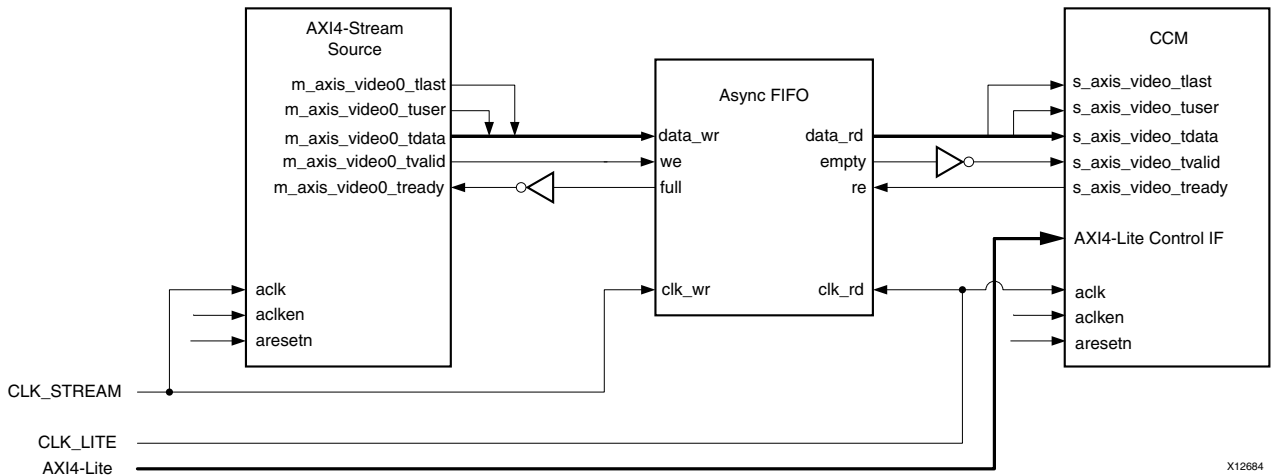

Figure 4-3: CCM CORE Top-Level Signaling Interface
- ( $F_{CLK\_STREAM} < F_{CLK\_LITE}$ ) then clock-domain crossing logic needs to be inserted before the AXI4-Stream interface, and the CCM core needs to be clocked at the AXI4-Lite clock via the `ACLK` pin, as shown in Figure 4-3. Alternatively, if  $F_{CLK\_LITE}$  greater than of the  $F_{MAX}$  of the CCM core, clock domain crossing logic can be inserted in front of the AXI4-Lite Control interface.
In either case, Xilinx System Integrator tools, such as EDK, can automatically infer clock-domain crossing logic using the AXI interconnect core, when the tool detects that the master / slave side of AXI4 interfaces operate on different CLK rates. For manual instantiation of clock-domain crossing logic, HDL users can take advantage of the FIFO Generator IP core, as shown in Figure 4-3.